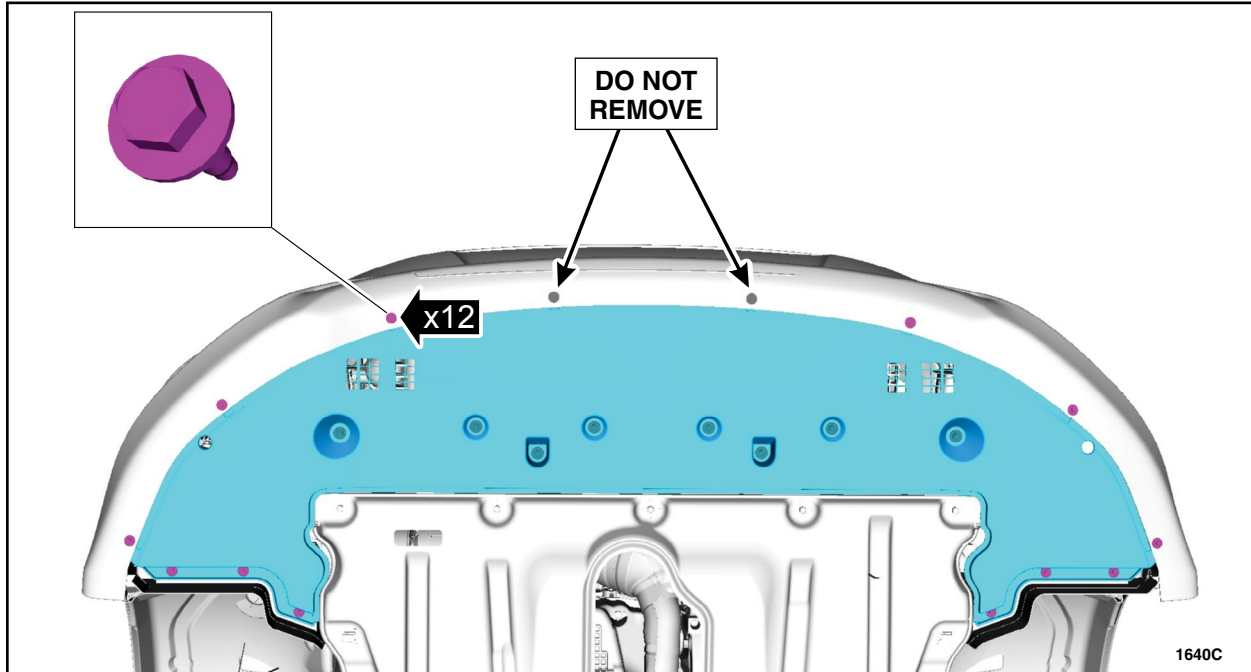

FIGURE 2
3. Remove the twelve front bumper cover-to-lower radiator closeout screws as shown in Figure 2.